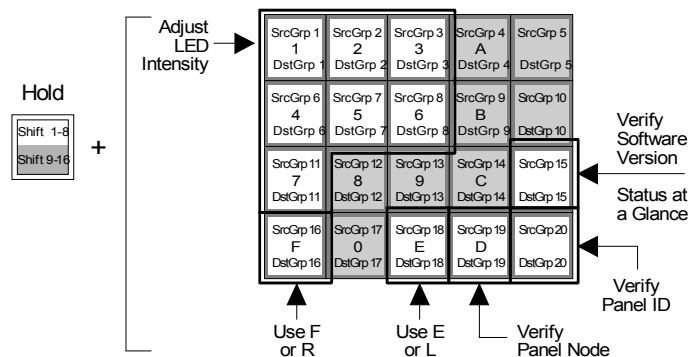

Figure 9-29. Panel Buttons used for Miscellaneous Panel Modes
2. While holding, press one of the first seven keypad buttons, as shown in Figure 9-29. Button **1** is the brightest setting; button **7** is the dimmest setting. (Even on the dimmest setting the LEDs are never completely off.)
2. While holding, press keypad button **D** as shown in Figure 9-29. (This button may also be labeled as **Group 19** on your panel.) In the **Destination/Level Display**, the panel's node address appears.
2. While holding, press the keypad **Group 20** button as shown in Figure 9-29. In the first three **Source Displays**, the panel's ID appears.
2. While holding, press the keypad **Group 15** button, as shown in Figure 9-29. In the **Destination/Level Display**, the panel's software version appears.
2. While holding, press the keypad **Group 18** button for 2 seconds, as shown in Figure 9-29. The panel toggles the extension between **E** and **L**, and the **Destination/Level Display** shows the current button assignment.
2. While holding, press the keypad **Group 16** button for 2 seconds, as shown in Figure 9-29. The panel toggles the extension between **F** and **R**, and the **Destination/Level Display** shows the current button assignment.
2. While holding, press the keypad **Group 15** button, as shown in Figure 9-29. In the **Source Display Section**, the status of each special mode appears.